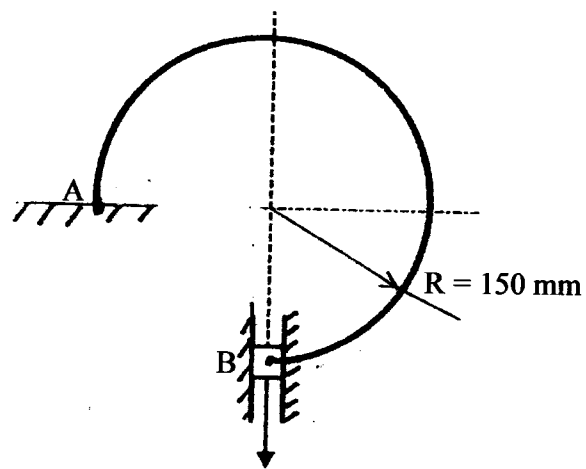

Figure Q4
- Q4** A bent cantilever shown in **Figure Q4** has a diameter of 12 mm rigidly attached at point A. Point B is forced to move only in vertical direction by applying 10 kg load. If the material's modulus of elasticity, $E = 200 \text{ GPa}$, determine the displacement of point B.